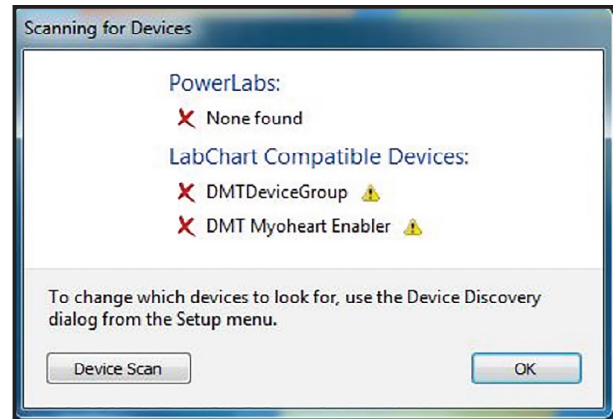

Fig. 12.B.: Scanning for Devices, - MyoHEART is not found.
- If MyoHEART is not found as shown in fig.12.B., then check if the MyoHEART system is turned on